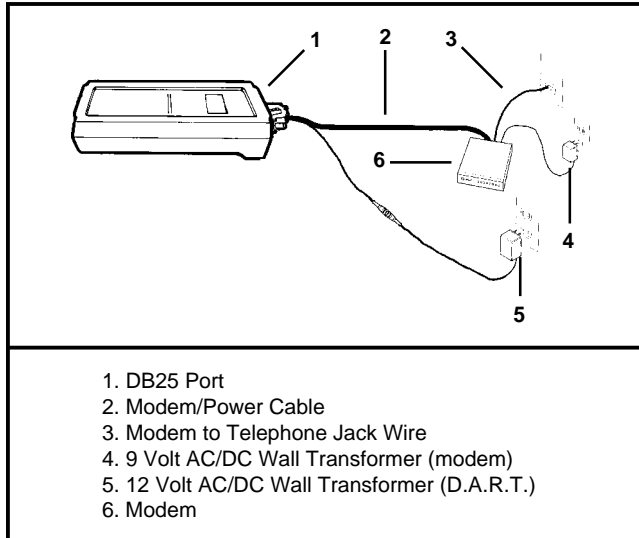

Figure 2.5: D.A.R.T. and Modem Setup
5. Attach the Modem/Power Cable to the DART DB25 Port and to the Modem (see Fig. 2.5).
7. Connect the D.A.R.T. to the modem as illustrated in Fig. 2.5. Supply power to the modem with the 9 volt wall transformer: The modem will automatically initialize itself, and then dial into the BBS.